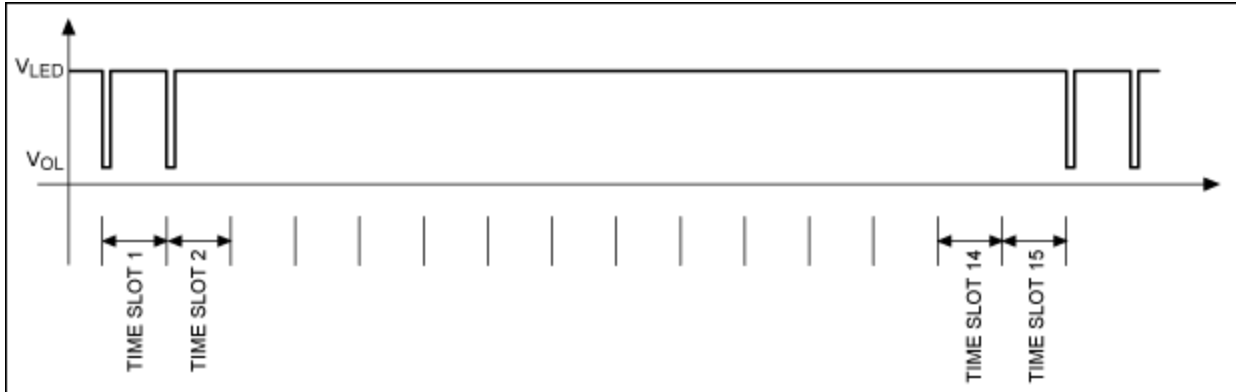
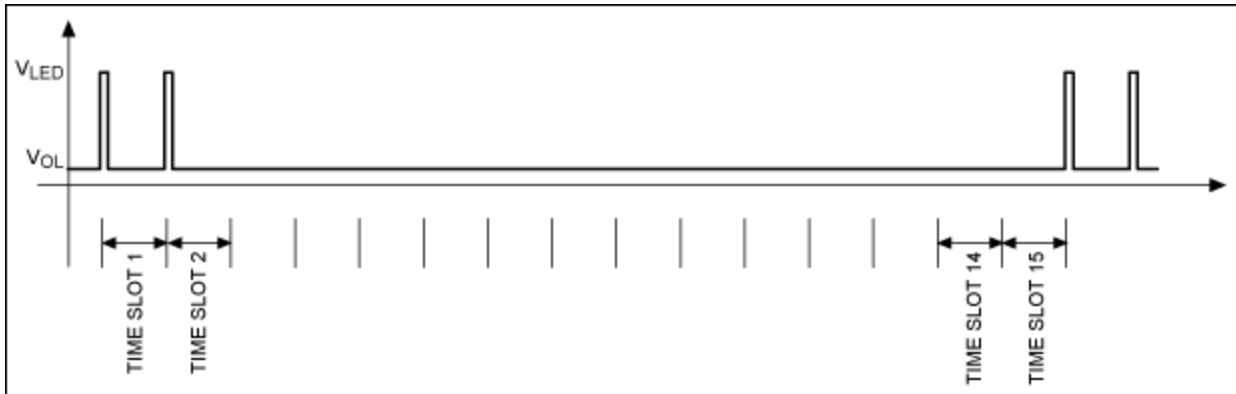

Figure 1. A port's output waveform.
Figure 2. A one's complementary waveform.
**Figure 1** shows the port's output waveform for a master on-time of 2/15th corresponding to a bit pattern of 0010, and an individual port's on-time of 2/16th corresponding to a bit pattern of 0001, when the polarity bit is 0. There are two master on-time slots available, and both of them are on for 2/16th, as determined by the individual port's on-time.
**Figure 2** shows the port's output waveform with the same master and individual port bit patterns of 0010 and 0001, but a polarity bit of 1. Comparing Figures 1 and 2, it can be observed that the on and off times are reversed—they form complementary waveforms. It is best to program the intensity level with a polarity of 0, but a polarity of 1 is necessary for blinking.